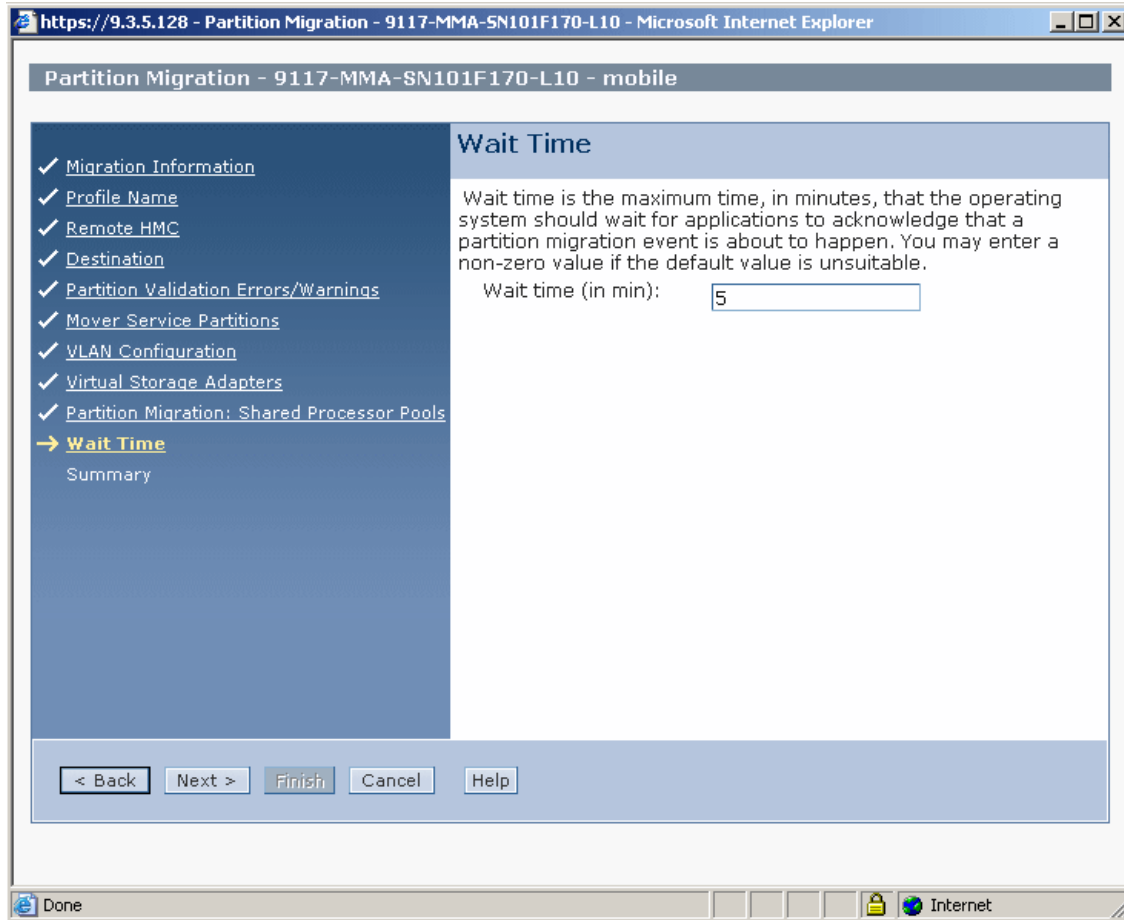

Figure 14-18 Specifying wait time
13. Specify the wait time in minutes as shown in Figure 14-18.